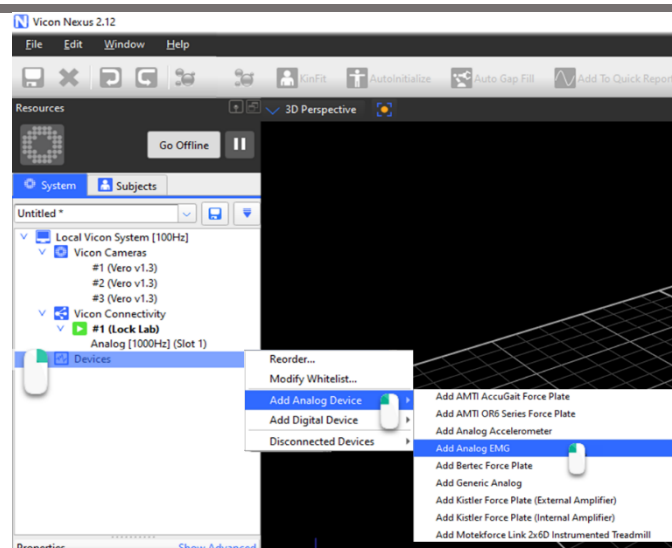

Figure 17: Adding an analog device into Vicon Nexus.
5. Once the Lock+/Lab is connected in the Local Vicon System panel, right click on Devices, and then navigate to *Add Analog EMG* (Figure 17).